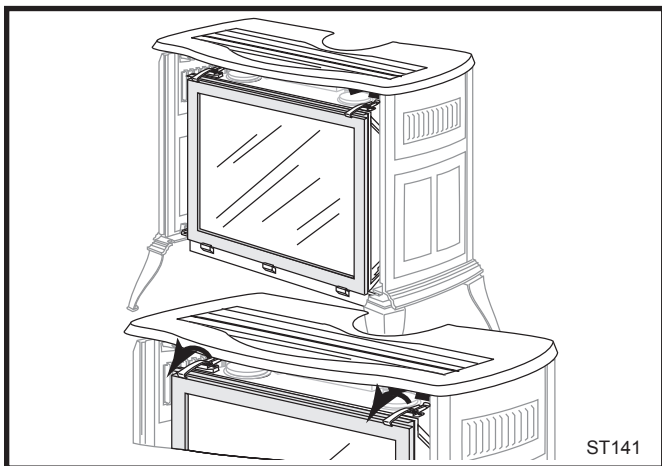

Fig. 85 Release the latches to remove the glass frame.
3. Starting on a long edge, remove about 6" of the protective paper strip and apply the flat adhesive face of the gasket around the outside-facing edge of the panel. Continue around the panel, applying about 6" at a time and being careful to not stretch the material. Do not overlap the gasket ends. (Fig. 85)